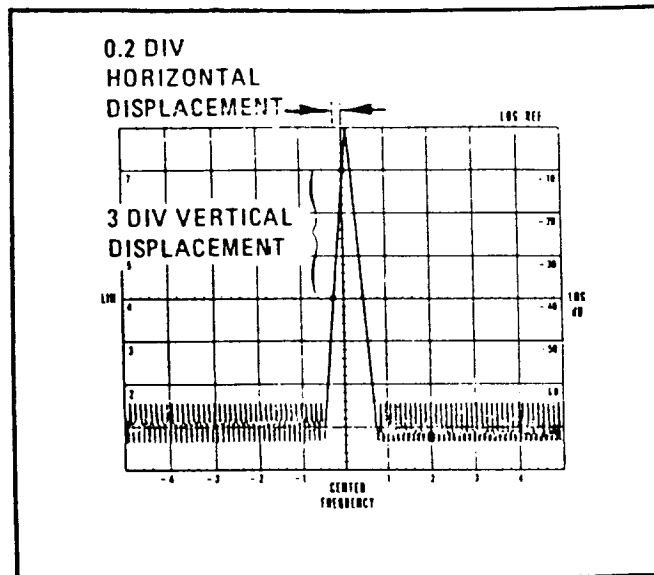

Figure 10. Local oscillator stability.
(3) Adjust **FREQUENCY** control until upward slope of signal pip intersects **CENTER FREQUENCY** graticule line one division from top graticule line as shown in figure 10. Note where slope of display intersects center horizontal graticule line.